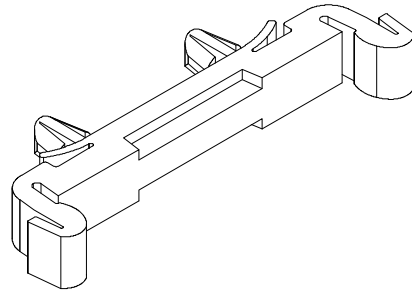

FIG. 3 DIN RAIL MOUNTING FOOT
- Step 3. Use a phillips head screwdriver and install the five (5) 6-32 x 1/2 inch screws that fasten the bezel to the panel. (See Fig. 3) Use a torque screw driver and torque each screw to 10 inch/pounds. **DO NOT OVERTIGHTEN!**
- Step 6. Put the Display cable and connector through the 1 inch hole in the panel door or cover and plug the display connector into the display header in the bezel. (See Fig. 3)
- Step 7. Gently slide the electronic enclosure onto the threaded rods while making sure the display cable glides easily into the enclosure and does not kink. Move the electronic enclosure toward the panel until it stops. (See Fig. 3)
- Step 8. Thread the four (4) 6-32 thumb screws onto the threaded rods until tight. Do not use pliers on the thumb screws.